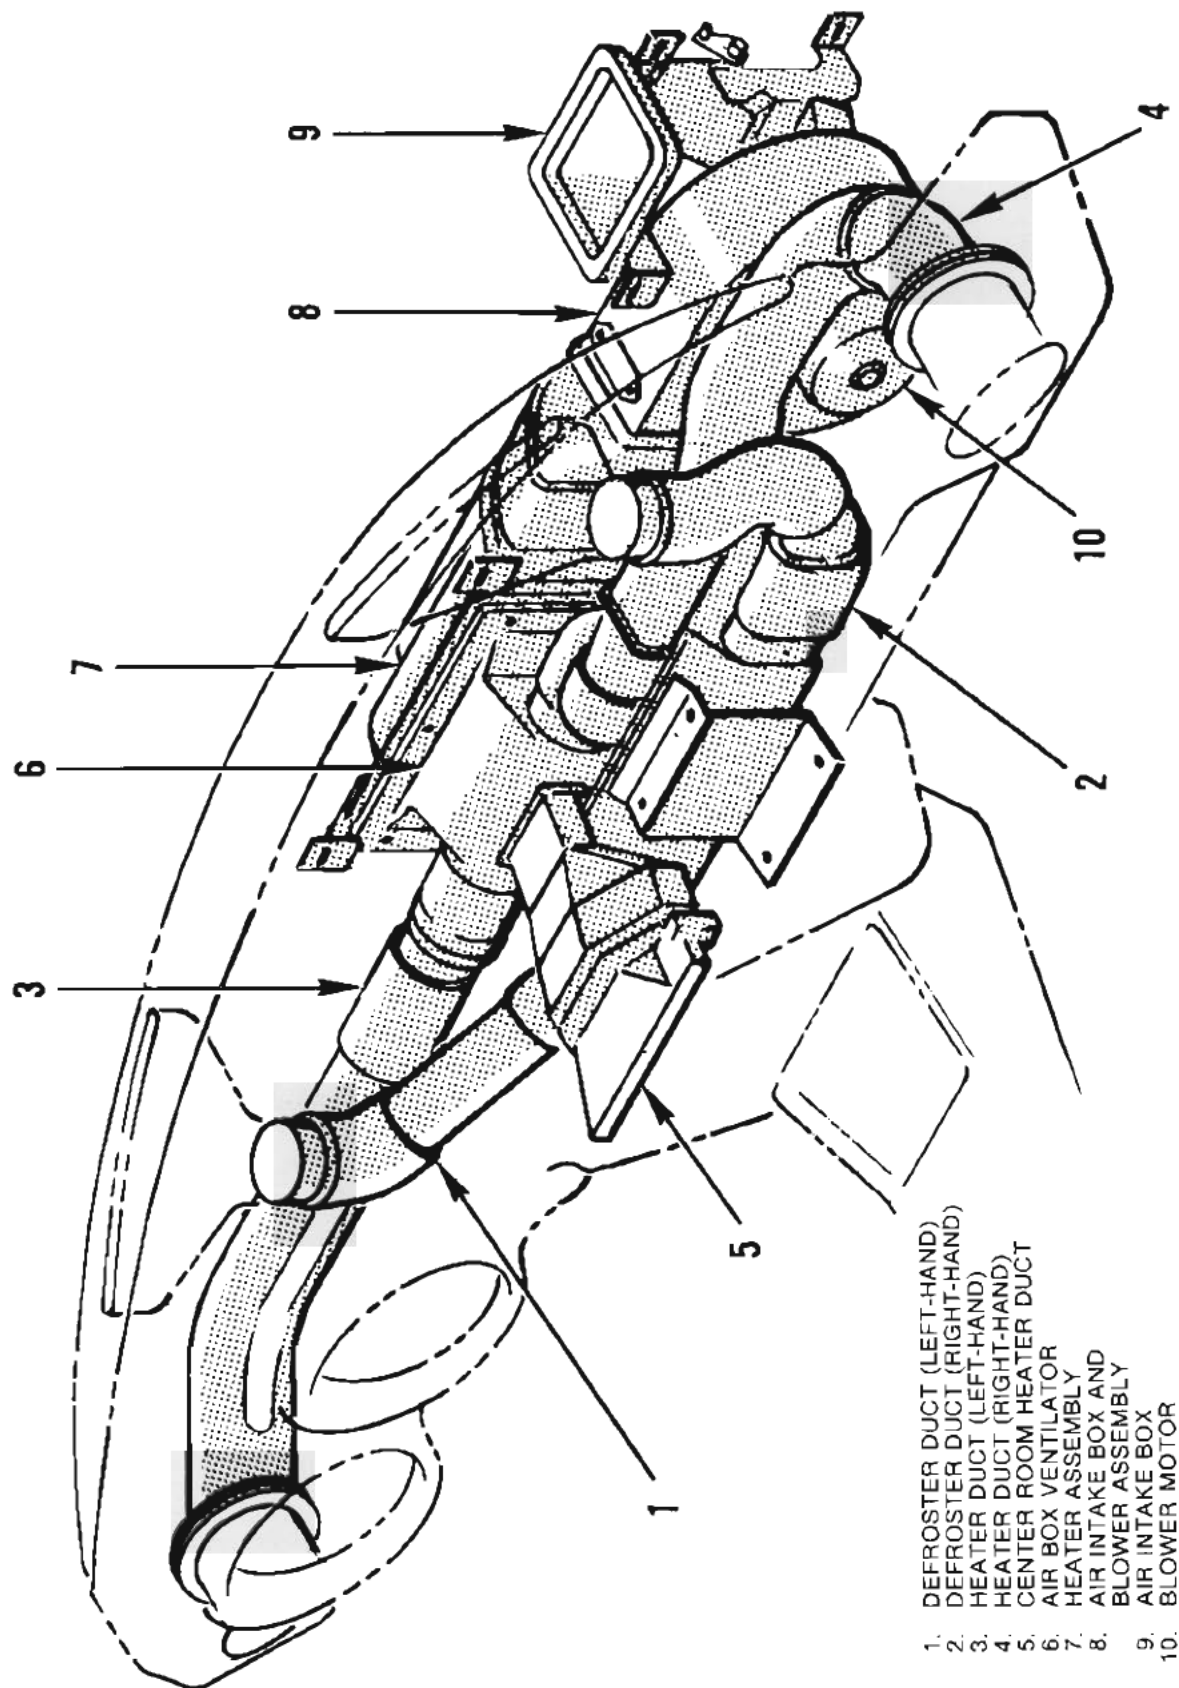

Figure III-1. Heat and Ventilating System (HVS) Installation
The system components, compartment, air intake/blower, and heating unit assembly, are mounted under the instrument panel adjacent to the inner firewall. Fresh air is ducted to compartment air outlets in the instrument panel facia, console finisher, and windshield defroster outlets located in the instrument panel, top garnish. (See Fig. III-1.)
2. Disconnect the defroster ducts (see Figure III-1. Items 1 and 2) at the air outlets.